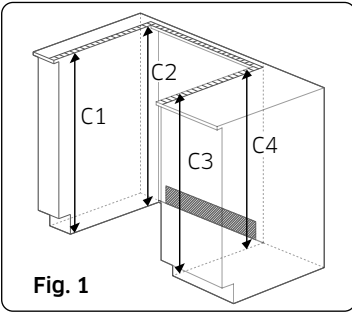

Fig. 1
1. The counter top around the cut-out should be flat and leveled (see hatched area on Fig. 1).
2. Before installing the unit, measure the heights of the two cabinet sides (C1–C4), front and back (See Fig. 1) from the floor to the top of the counter.